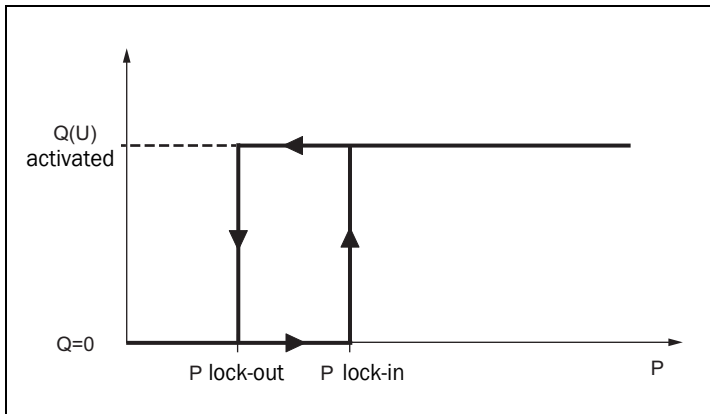

Fig. 39 Example of lock-in and lock-out values for Q(U) mode.
Fig. 39 shows a typical example of lock-in and lock-out values for Q(U) mode.